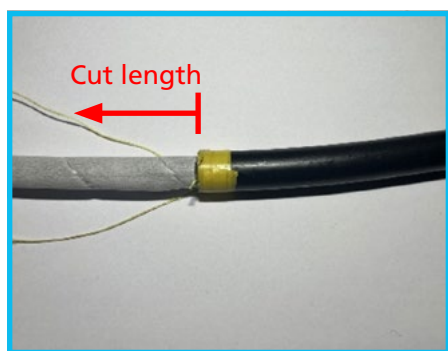

Figure 5
1. Markup the cable at the length detailed in **table 1** and remove the outer sheath and steel tape armour **[figure 5]**.